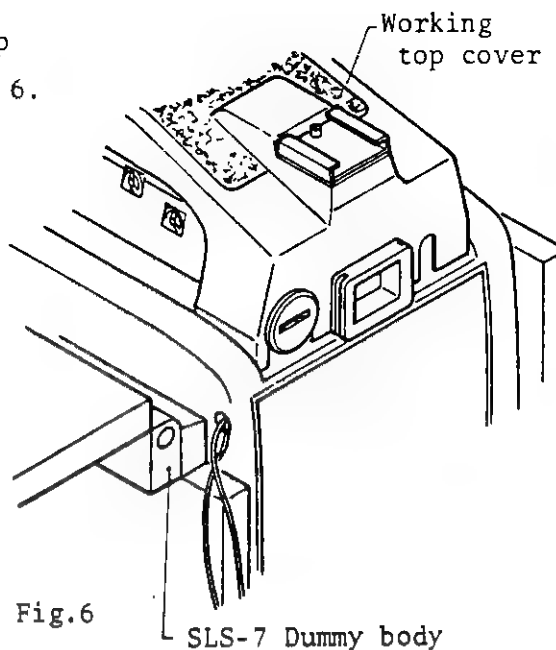

Fig.6
- 1) Remove top cover and attach working top cover temporarily as shown in the Fig. 6. Install shutter dial temporarily.